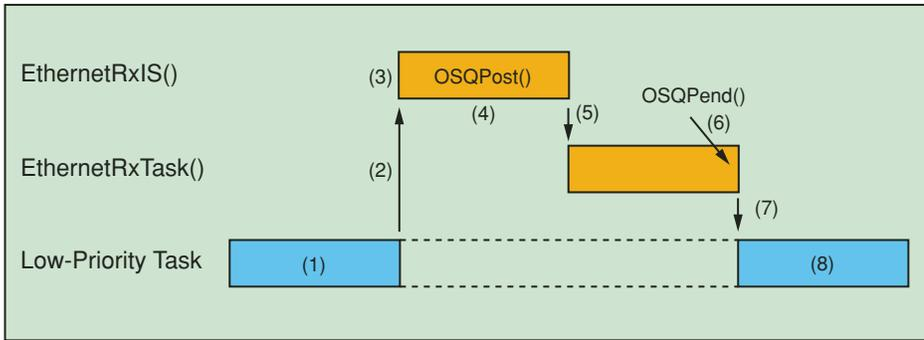

Figure 1 – Execution profile of an ISR and $\mu\text{C}/\text{OS-II}$
The execution profile for these two functions is shown in Figure 1.
$\mu\text{C}/\text{OS-II}$ then locates the next most important task that's ready to run (the "Low-Priority Task" in Figure 1) and switches to that task by loading the MicroBlaze registers with the context saved by the ISR (7). This is called a *context switch*. $\mu\text{C}/\text{OS-II}$ takes less than 1 microsecond at 150 MHz on the MicroBlaze processor to complete this process. The interrupted task is resumed exactly as if it was never interrupted (8).